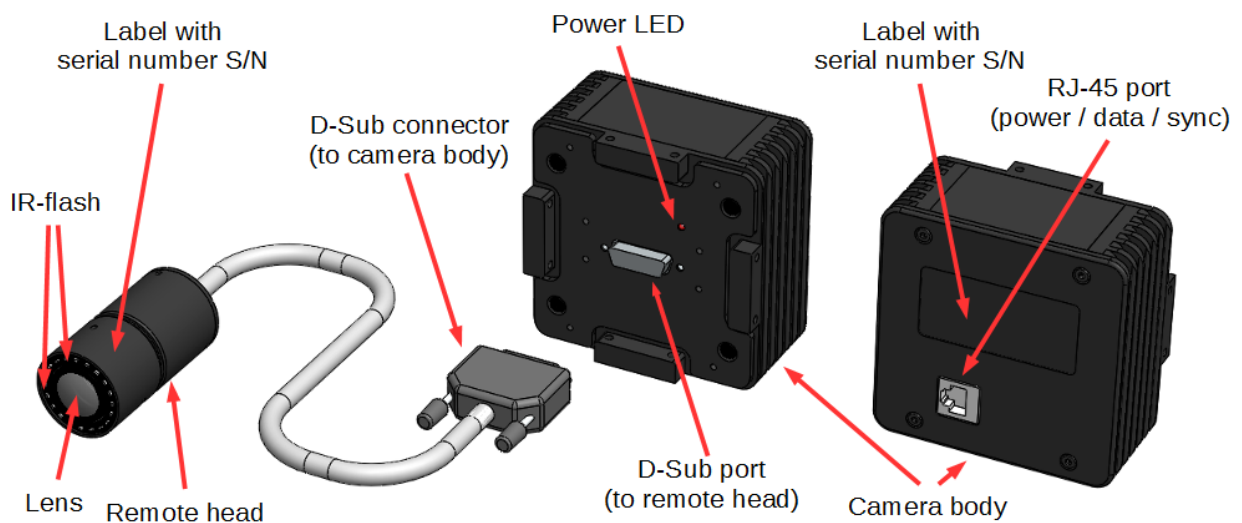

Figure 4.3: Camera *ARTTRACK5/C* - Description of LEDs and interface connectors
**Description** The *ARTTRACK5/C* camera is designed for tracking in multi-sided projection environments (e.g. CAVE®, I-Space). In such an environment it is necessary to drill holes into the projections' corners. The *ARTTRACK5/C* camera has been designed to easily fit into such holes by separating the lens from the electronics part (see figure 4.3 on page 27). With its 4.0 mm lens a large field of view (FoV) is covered. Refer to A.1 on page 125 for more information.